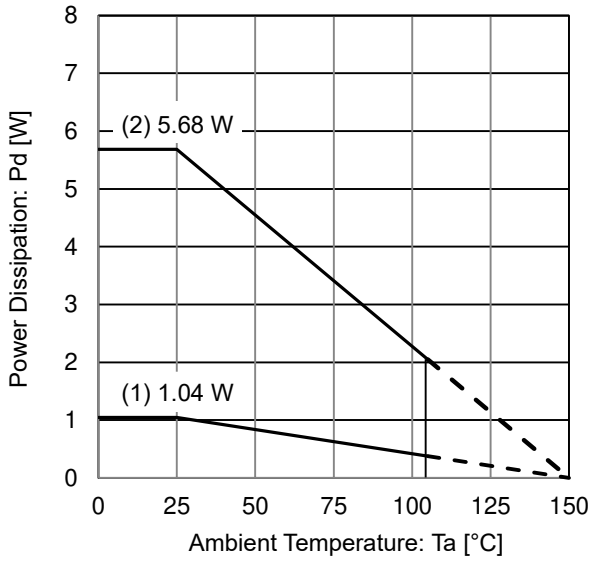

Figure 28. Power Dissipation
When operating at temperature more than $T_a = 25 \text{ }^\circ\text{C}$, please refer to the power dissipation characteristic curve shown in Figure 28.
Figure 28 show the acceptable power dissipation characteristic curves of the HRP5 package. Even when the ambient temperature (T_a) is at normal temperature ($25 \text{ }^\circ\text{C}$), the chip junction temperature (T_j) may be quite high so please operate the IC at temperatures less than the acceptable power dissipation.
(Figure 28. (2) $\theta_{ja} = 22 \text{ }^\circ\text{C/W} \rightarrow -45.5 \text{ mW}/^\circ\text{C}$